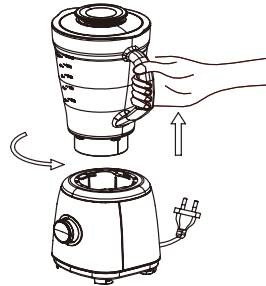

Fig 3
10. Unplug the appliance, remove the Blender jug from the main body by turning it anticlockwise until the Handle of the Jug is aligned with the “unlock” mark on the Base (Fig 3), and then remove the Lid and pour the food out.